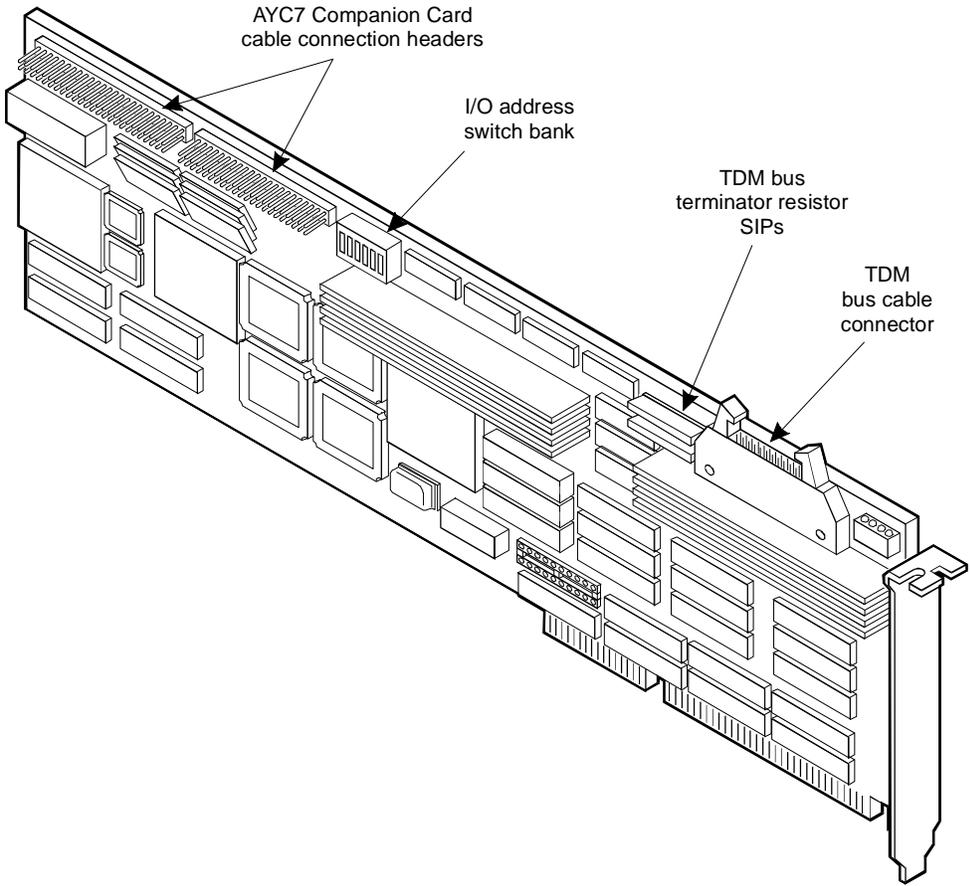

Figure 7-20. Signal Processor (AYC2C or AYC9) Circuit Card
- AYC2C and AYC9 — see Figure 7-20